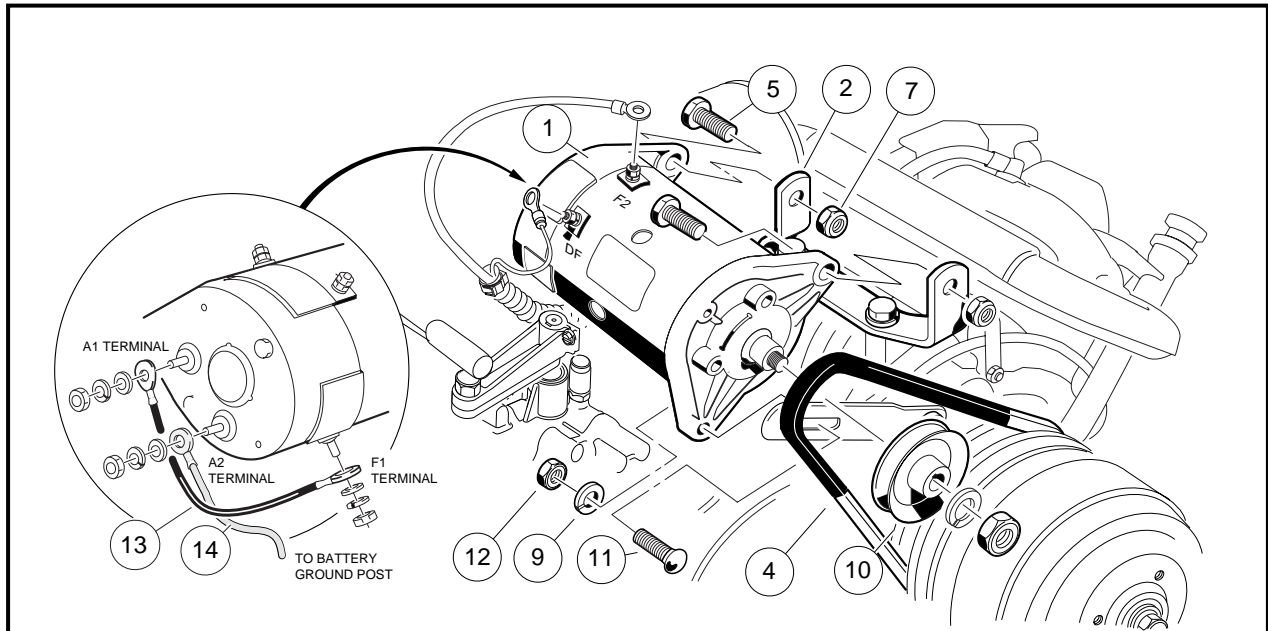

Figure 12-2 Starter/Generator Removal
3. Disconnect the wires from the starter/generator (1). Mark wires before disconnecting. Loosen the pivot nuts (7) and bolts (5) (Figure 12-2, Page 12-3).
4. Remove the mounting/adjustment nut (12), washer (9) and bolt (11). Lower the starter/generator and slip the belt (4) off the pulley (10).
5. Support the starter/generator so that when the pivot bolts are removed the starter/generator will not fall to the ground. Remove the two pivot nuts (7) and bolts (5) from the mounting bracket.